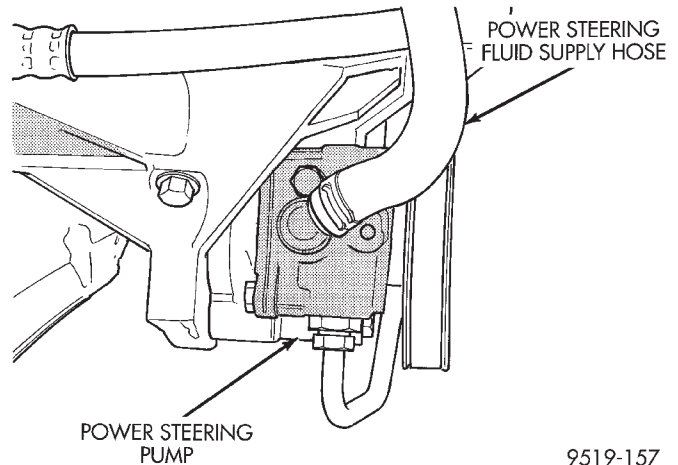

Fig. 22 Fluid Supply Hose At Power Steering Pump
(3) Raise vehicle.
(4) Remove hose clamp, attaching power steering fluid supply hose to the power steering pump. Then remove power steering fluid supply hose from power steering pump fitting (Fig. 22).
(1) Install power steering fluid supply hose on power steering pump fitting, making sure it is correctly routed up to the power steering fluid reservoir. Install hose clamp on power steering fluid supply hose at power steering pump fitting (Fig. 22). **Be sure hose clamp is installed on power steering fluid supply hose past upset bead on power steering pump fitting.**
(2) Lower vehicle.